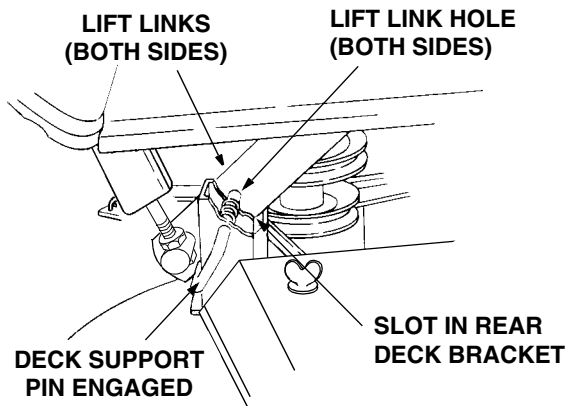

Figure 35
- Carefully guide the tractor implement lift links (left and right) into the rear deck bracket slots (left and right) as the tractor implement lift handle is lowered to its lowest setting (Refer to Figure 35).
- Pull both deck support pins outward and rotate rearward to disengage the outer surface of the rear deck brackets. Release the pins, making certain each deck support pin passes through the inner hole of the rear deck bracket. The spring tension will push the pins inward and, if aligned, through the hole in each implement lift link (Refer to Figure 35).